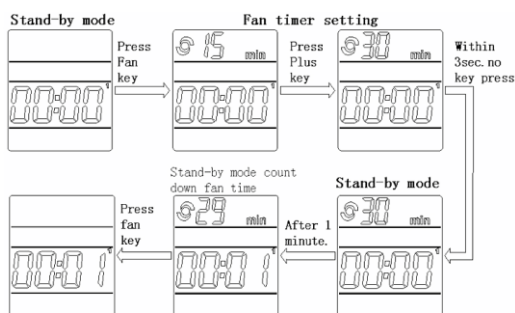

fig.5
- When the current mode is set on "2-Hours mode" or "Stand-by", by terminating the "fan timer" setting, the time countdown will be displayed. By pressing the "Fan" button again, the symbol will disappear and the function will be deactivated. (Fig 5)